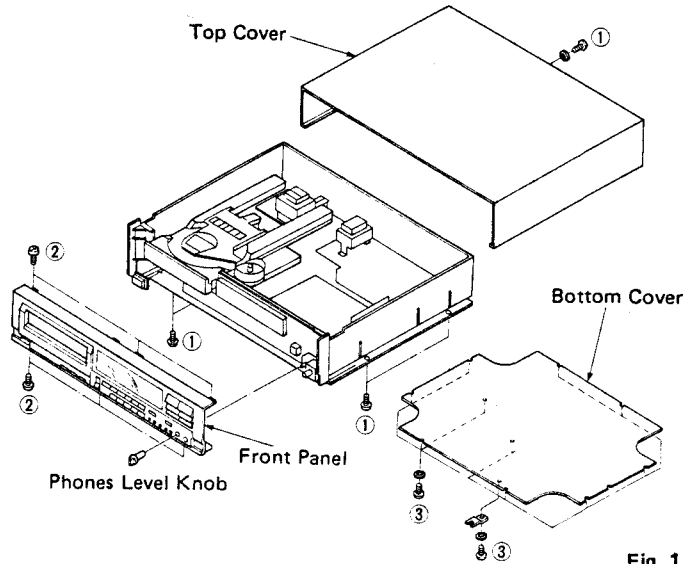

Fig. 1
- a. Remove 5 screws ( ① ) in Fig. 1, and slide the Top Cover to the back side.
- a. Remove the phones level knob in Fig. 1.
- b. Remove 6 screws ( ② ) in Fig. 1, and pull the Front Panel forward.
- a. Remove 10 screws ( ③ ) in Fig. 1.